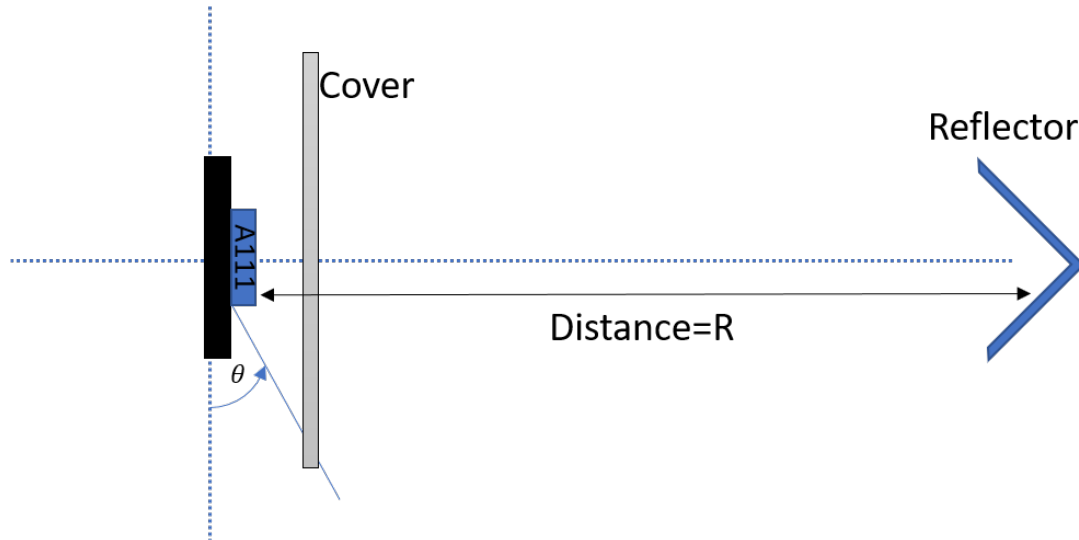

Figure 3: Setup configuration for radar loop pattern measurements.
In addition to the above it is also important for optimized integration to consider the electromagnetic (EM) environment, both in terms of what is placed on top of the sensor as well as to the side of the sensor. To evaluate the EM integration a Radar loop measurement can be conducted by placing an object in front of the sensor and rotating the sensor around its own axis, as illustrated in Figure 3. The received energy from e.g. the Envelope Service can then be used to plot the amplitude versus rotation angle (θ).